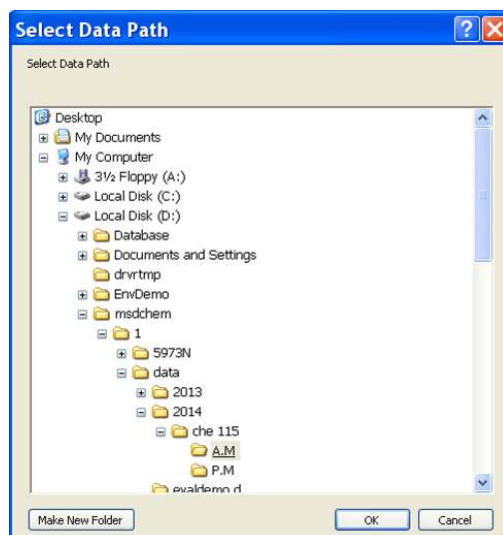
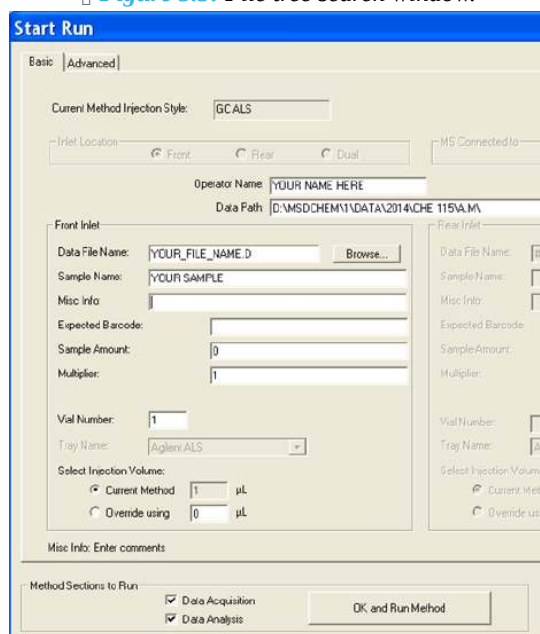

Figure 5.5: File tree search window.
Figure 5.6: File naming window.
4. Now it is time to set up the analysis by clicking on the green arrow. A new window will open up (□ Figure 5.5). First, set the user (or the group) name. Next, set your data pathway by following the tree from D: drive > MSDCHEM > 1 > DATA > 2014 > CHE 115 > the appropriate folder (□ Figure 5.6). Name your file making sure to retain the “.D” suffix. The recommended file naming format is using the date and underscores such as “2014.01.02_standard1”. Add the other information: user, sample name, info. It is imperative that you enter the correct Vial #. Standard 1 is in position 1, 2 in 2... Unknown (UK) 1 is in position 10, UK2 in 15, UK3 in 20.
7. As your run progresses and the approximate 3-minute solvent delay has passed, you should see peaks appear in the smaller subwindows. It is possible to begin data analysis by taking a snapshot in the data analysis program. If not already open, launch the Enhanced Data Analysis program by clicking on the bottom icon seen in Figure 5.3. Under the file tab of the Enhanced Data Analysis window, choose 'take a snapshot'. The snapshot of the current run is then displayed. You can zoom in on a peak or region by clicking and dragging the cursor over the 'square' area desired to be blown up. Within the chromatogram subwindow, the cursor becomes a vertical line. Double right-clicking on the peak of interest brings up the mass spectrum in another subwindow below the chromatogram (Figure 5.5). Different regions of the peak can give varying information; therefore, it is important to click in several places within the same peak to obtain the best data. It is possible to take multiple snapshots during a run; however, once the last minute of the run has begun, the snapshot option becomes unavailable.